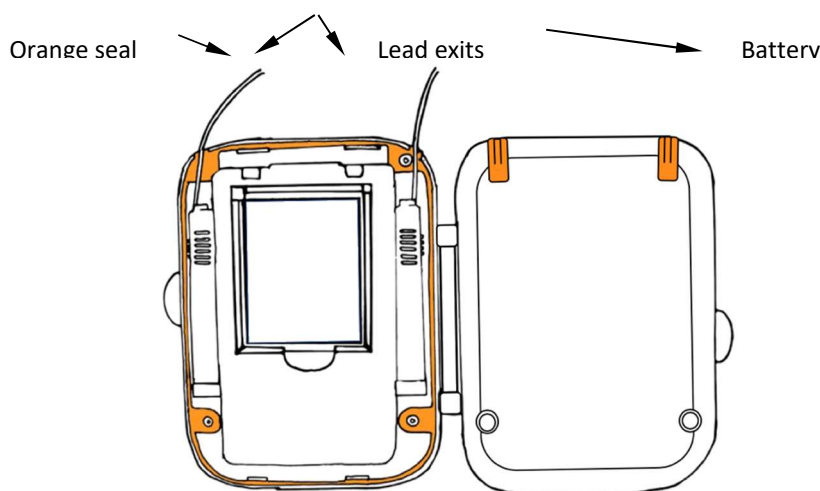

Figure 11.5: Place the eCLS with leads connected into the eCLS Case.
1. Ensure that a fully charged battery is inserted in the eCLS (see Section 11.4; Figure 11.5).
2. Open the eCLS case with the lead exits pointing up. Place the eCLS into the orange seal side of the case, with the eCLS battery facing up and the leads pointing up over the lead exits (see Figure 11.5).
1. Before the patient goes home with an eCLS, a fully charged eCLS battery should be in place (see Figure 11.5).